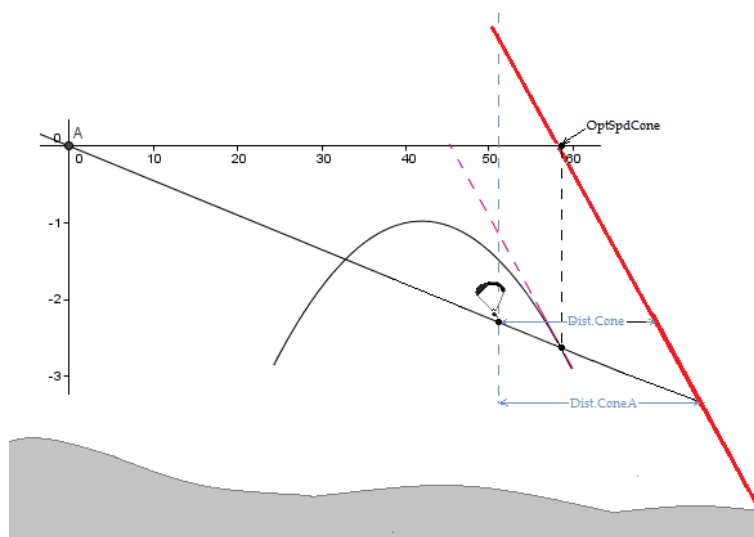

Figure 5.2: Conical End of Speed Section
Consider the same task represented in Figure 4.5, but now the *End of Speed Section* (ESS) is a cone with 4:1 ratio. In order to set up the task you should make the same steps defined in Section 5.1 except the step 5. As the cone as a ratio of 4:1 in this step you should set the *Cone* parameter to 4.0. The LIVE SD provides some information to optimize the navigation when the ESS is conical. This information is provided through 5 additional data fields which can be included in a Layout page. Each of the data fields is explained in Section 3.2, but for a better understanding consider the situation of Figure 5.2.
In the example of Figure 5.2, the pilot is flying to the ESS at a certain true air speed (TAS). There is an optimum TAS value which minimizes the time to reach the ESS. This value depends on the polar and cone ratio, and is not affected by the wind or thermals. The LIVE SD calculates the optimal TAS value
When the ESS is a cylinder the distance to the ESS does not depend on the pilot altitude. On the contrary, when the ESS is a cone the distance to the ESS depends on the altitude. Because of this, the LIVE SD provide 2 distances in 2 different data fields. The *Dist.Cone* data field shows the distance to the ESS at the current pilot altitude (see Figure 5.2). As the glider glide ratio (GR) is usually positive and finite the altitude at which the pilot reaches the ESS is different from the current altitude, so real distance to the cone depends on the GR. The *Dist.ConeA* data field shows the horizontal distance to the ESS considering the expected average GR through the remaining path (see Figure 5.2).